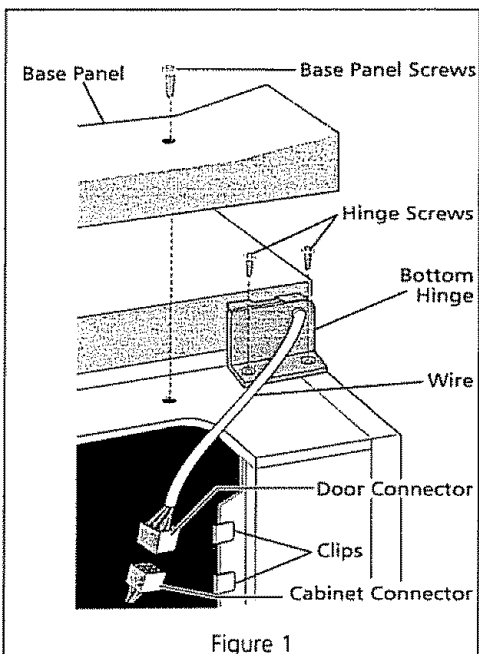

Figure 1
- Remove the base panel by unscrewing two screws from front of base panel. Remove wire from clips on bottom of cabinet. (Figure 1 below)
- Unplug connector by holding the cabinet connector in place, and pulling door connector out. (Figure 1 below)
- **On upright models** with a defrost drain (Figure 1), remove the drain plug on the inside floor of the freezer by pulling straight out. To access the external drain tube on models with a base panel, first remove the two screws from the base panel. Locate the drain tube near the left center under the freezer. Place a shallow pan under the drain tube. Defrost water will drain out. Check pan occasionally so water does not overflow. A one half inch garden hose adaptor can be used to drain the freezer directly into a floor drain. If your model is not equipped with an adaptor, one can be purchased at most hardware stores. Replace the drain plug when defrosting and cleaning are completed. If the drain is left open, warm air may enter the freezer.